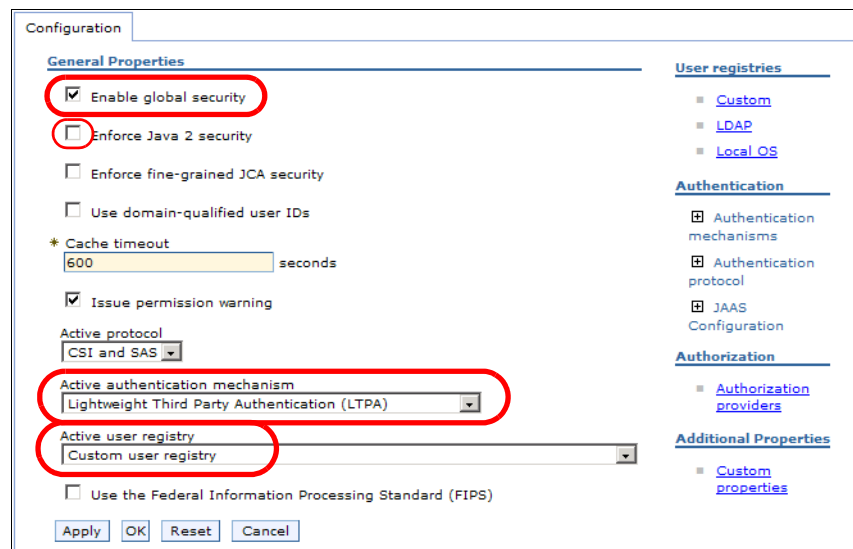

Figure 11-8 Enable global security
- Back in Global Security (Figure 11-8).